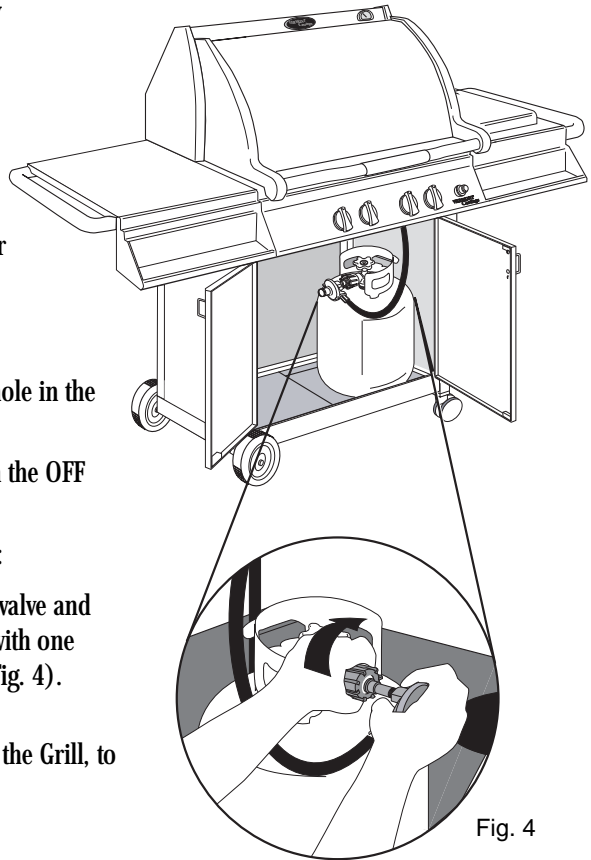

Fig. 4
- Insert the nipple of the valve coupling into the tank valve and tighten the connection collar by turning it clockwise with one hand while holding the regulator with the other, (see Fig. 4).